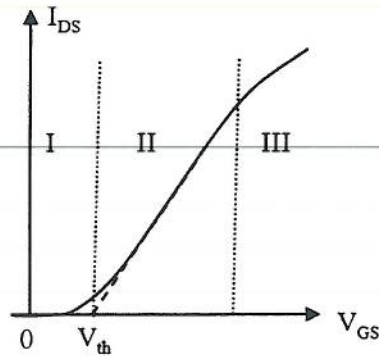

Figure 1.1: The transfer characteristic of a MOSFET in the triode region.
- b) In figure 1.1 the transfer characteristic of a MOSFET is given for V_{DS} in the linear region. Three regions are indicated: I, II, III. Explain the shape of the current in each region. ([3] marks for I & III, [2] for region II) [8]